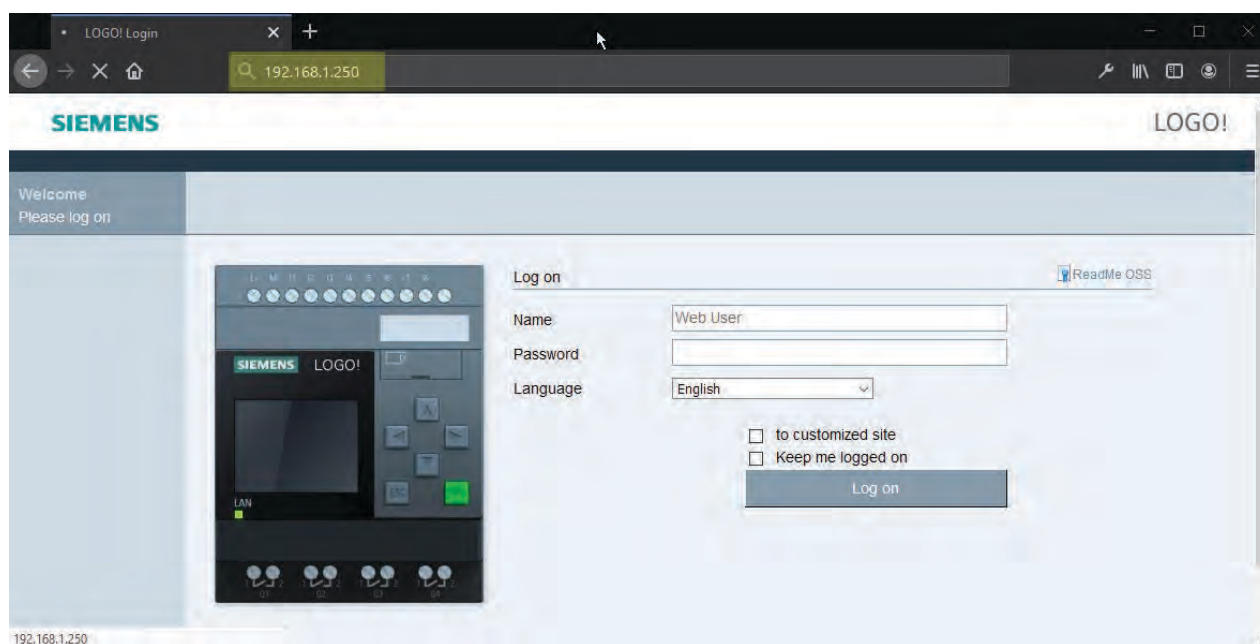

Figure 1
- As shown in figure 1, enter the IP address that you programmed into your furnace control, in our case this is 192.168.1.250. Enter this in the browser URL and hit enter.